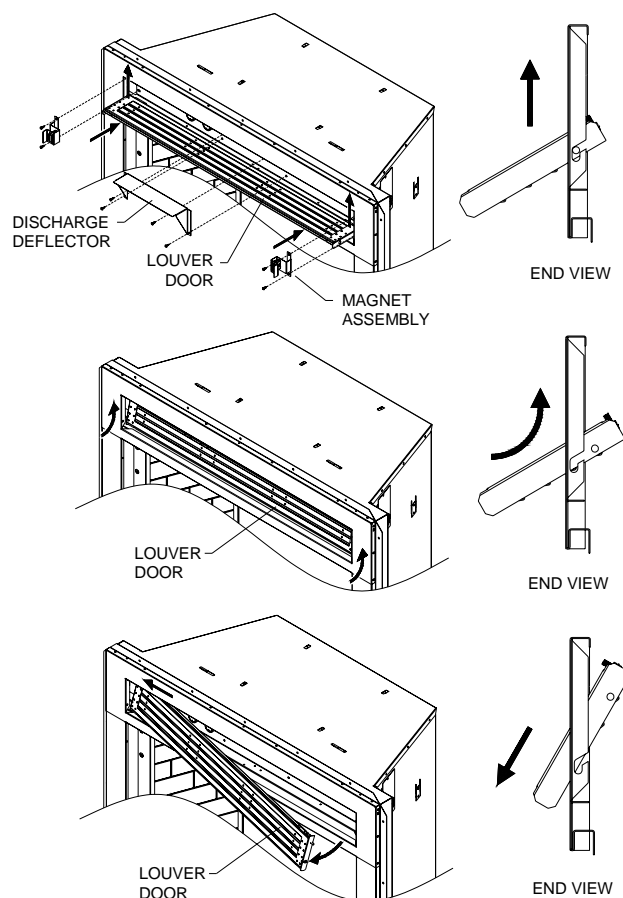

Figure 29 – Removing/Replacing Control Door
2. Remove 4 Phillips screws above the heater grill and angle the deflector shield out the opening. See **Figure 29**.
4. Lift up on the inner control door and push in each end until the pivot pins are free of the notches located on each side of the access opening. See **Figure 29**.